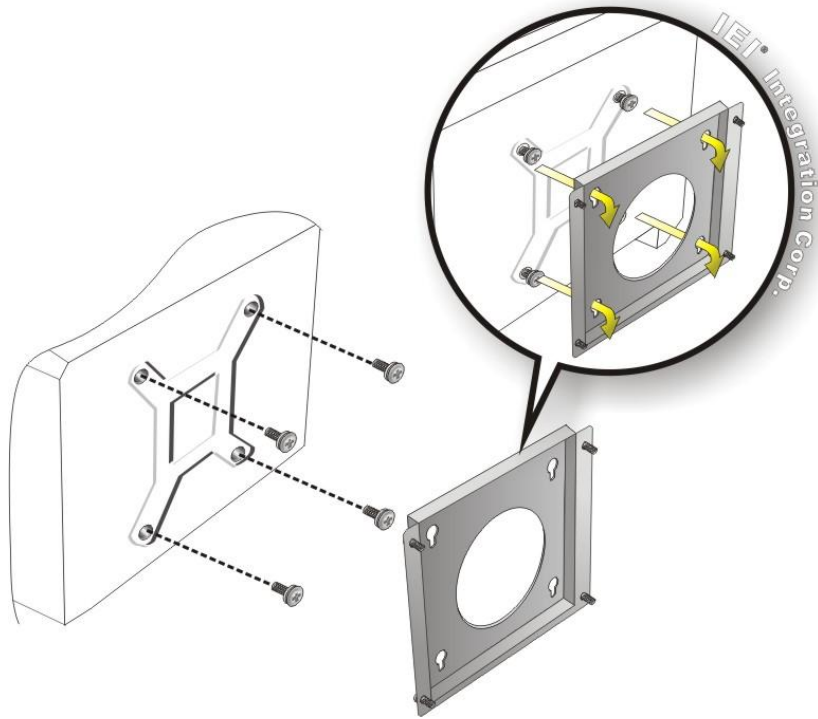

Figure 3-27: Mount the Chassis
- Step 6:** Insert the four monitor mounting screws provided in the wall mounting kit into the four screw holes on the rear panel of the monitor and tighten until the screw shank is secured against the rear panel (**Figure 3-27**).
Step 8: Carefully insert the screws through the holes and gently pull the monitor downwards until the monitor rests securely in the slotted holes (**Figure 3-27**). Ensure that all four of the mounting screws fit snugly into their respective slotted holes. Always keep the AURA-xxx-RK3576 in landscape orientation when mounting on the wall.